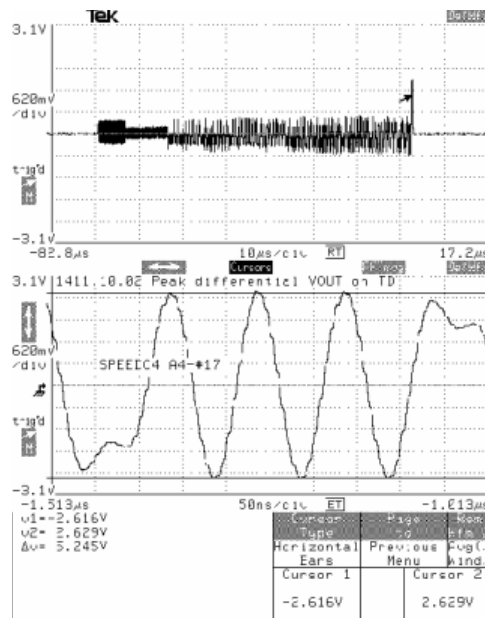

Figure 17-3. Example 10MHz Measurement
8. Locate the 10MHz signals after a stable trigger is obtained and measure positive and negative peak voltages. See Figure 17-3. Locate regions of three periods for each signal to ensure the peak voltage is not affected by transitioning from a 5 MHz signal to a 10 MHz signal or from a 10 MHz signal to a 5 MHz signal.